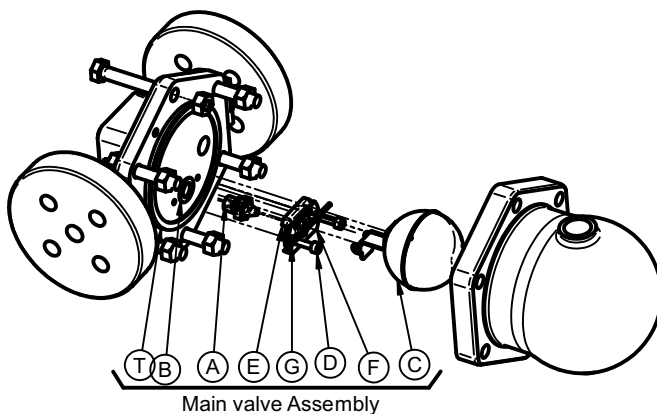

Figure 5: Parts available as spares for FMLDT53
1. Unscrew cover bolts (2) and lift off the cover (5).
2. Dismantle the pivot pin and remove the ball float (9).
3. Unscrew the assembly set screws (8), and dismantle the pivot frame (11).
4. Remove the valve seat (6) along with the valve seat gasket (7).
5. Replace the main valve assembly (A, B, C, D, E, F, G, & T as shown in fig.5) with a new one.
6. Fit support frame and pivot frame (11) by using two set screws (8) but do not tighten full.
8. Now tighten the set screws (8).
9. Refit the cover (5) by using the cover bolts (2).
9. Available Spares: (Refer Fig.5)